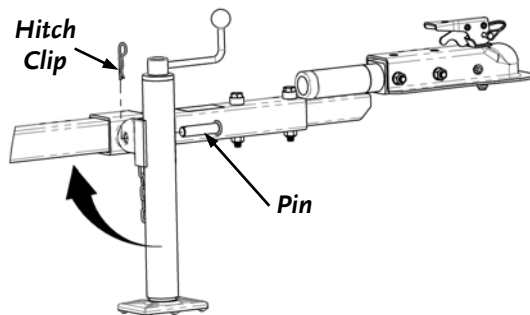

Figure 27
3. Remove the Hitch Clip and Pin from the Jack Stand Pivot and rotate the Jack up away from the Swivel Tow Hitch (**Figure 27**).